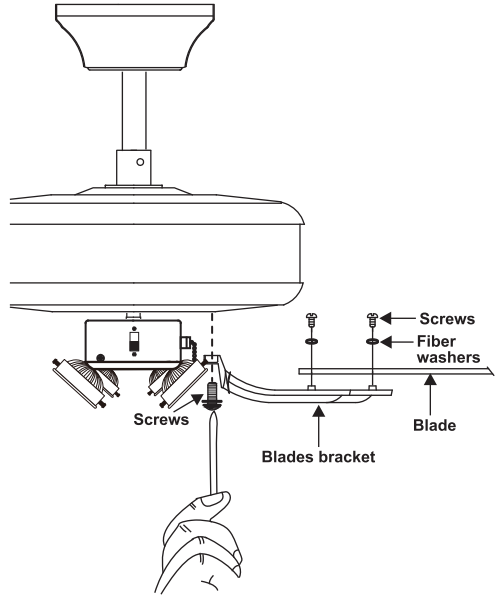

Fig.14
Step 1 Attach the blade to the blade bracket using the screws and fiber washers as shown in Figure 14. Start screw into bracket. Repeat for the two remaining screws.
Step 3 Fasten blade assembly to motor using the screws supplied. (Fig. 14)